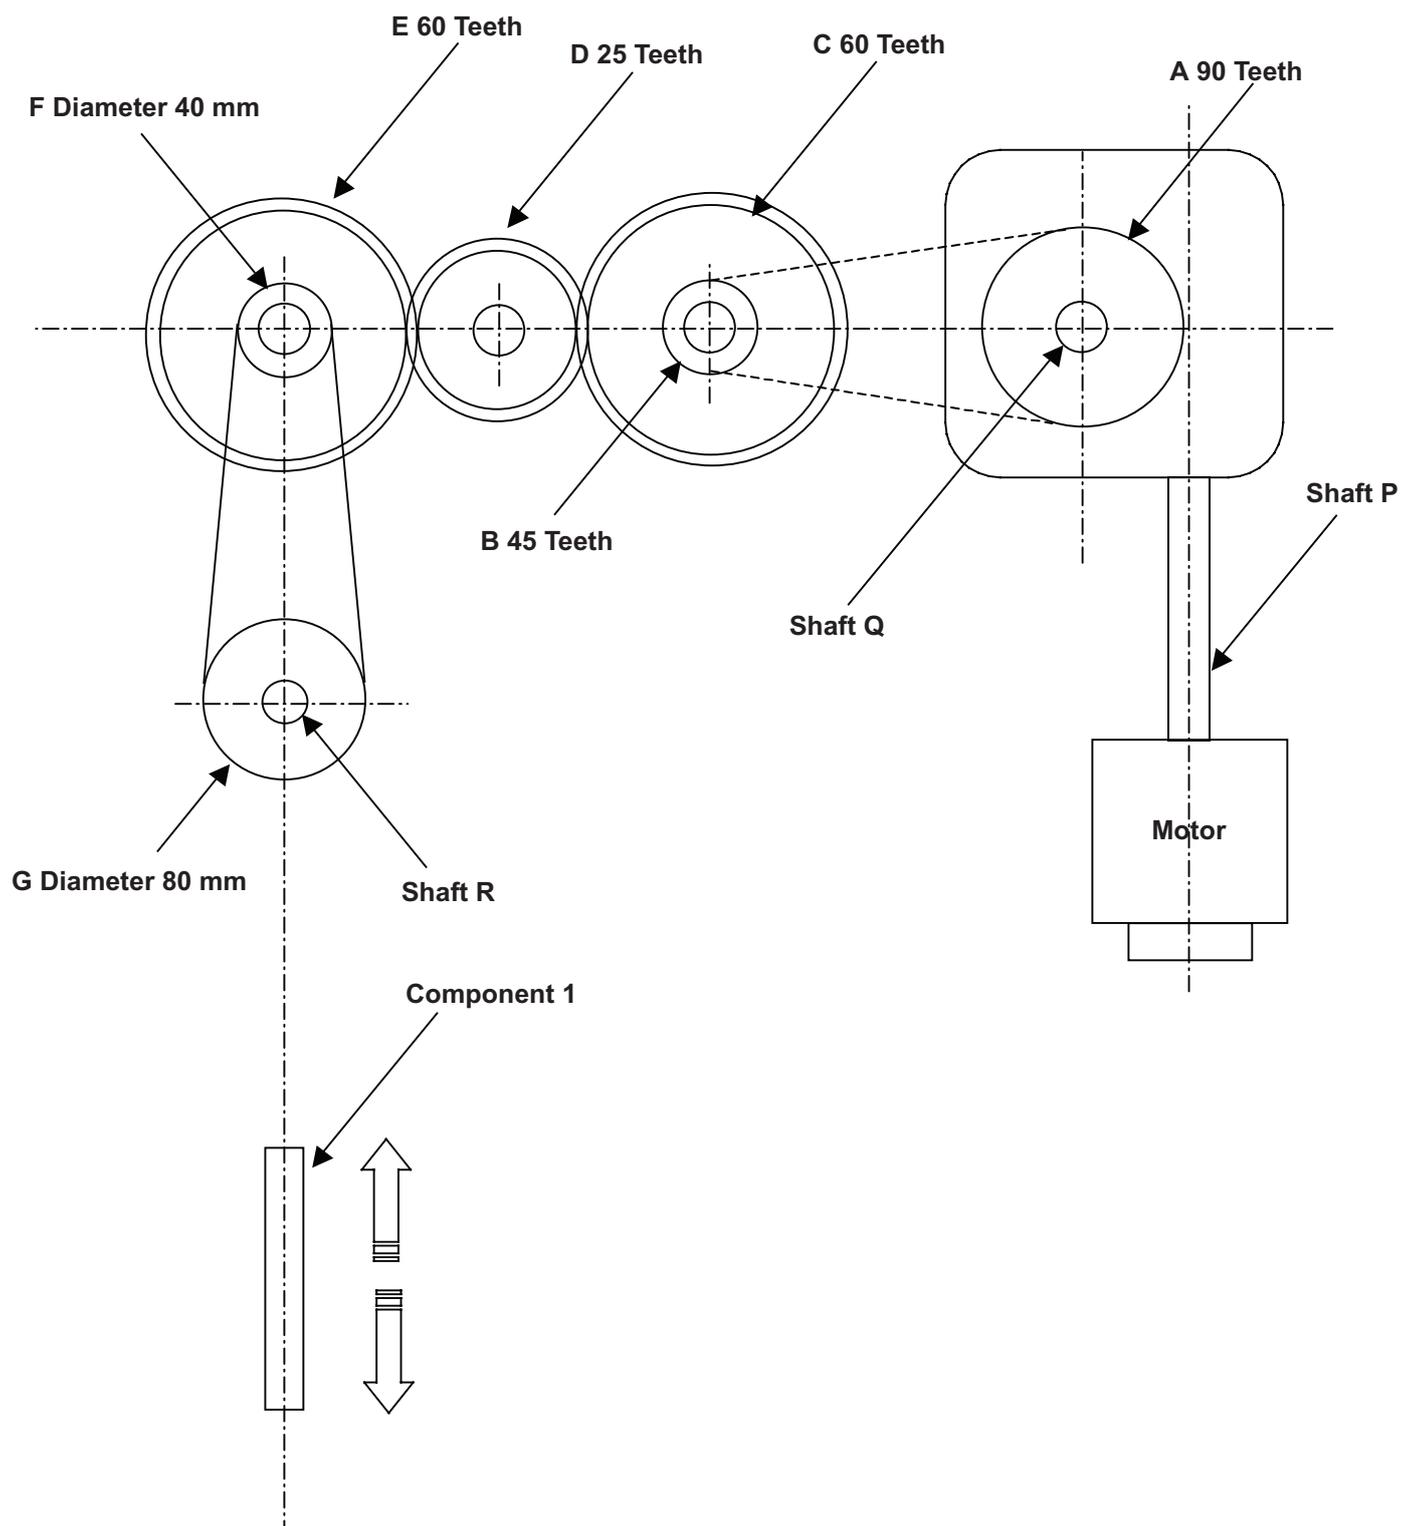

Fig. 11
- 11 Fig. 11** shows a mechanical system which includes a motor, chain and sprockets, pulleys, gears and shafts.